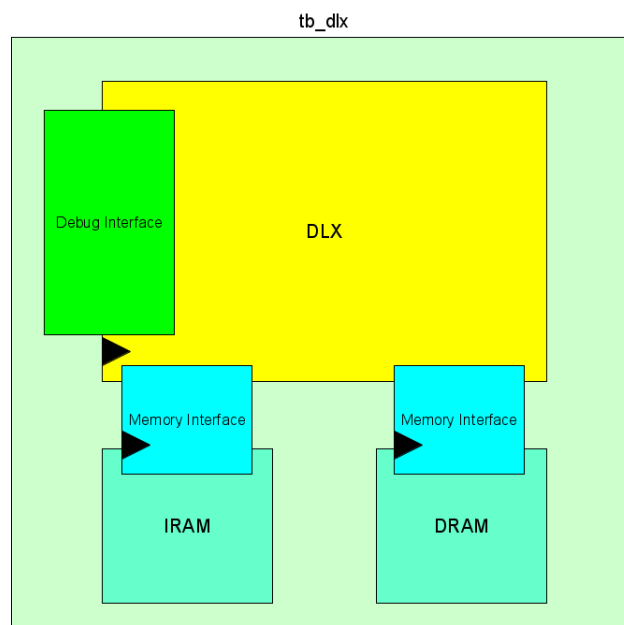

Figure 2.1: Testbench architecture
In Figure 2.1 are missing the clock interconnections and the reset just for a matter of readability. In this case the:
- Driver, it retrieves the next instruction item from the sequencer and gives it to the DUT . It basically behaves as the IIRAM of Figure 2.1.